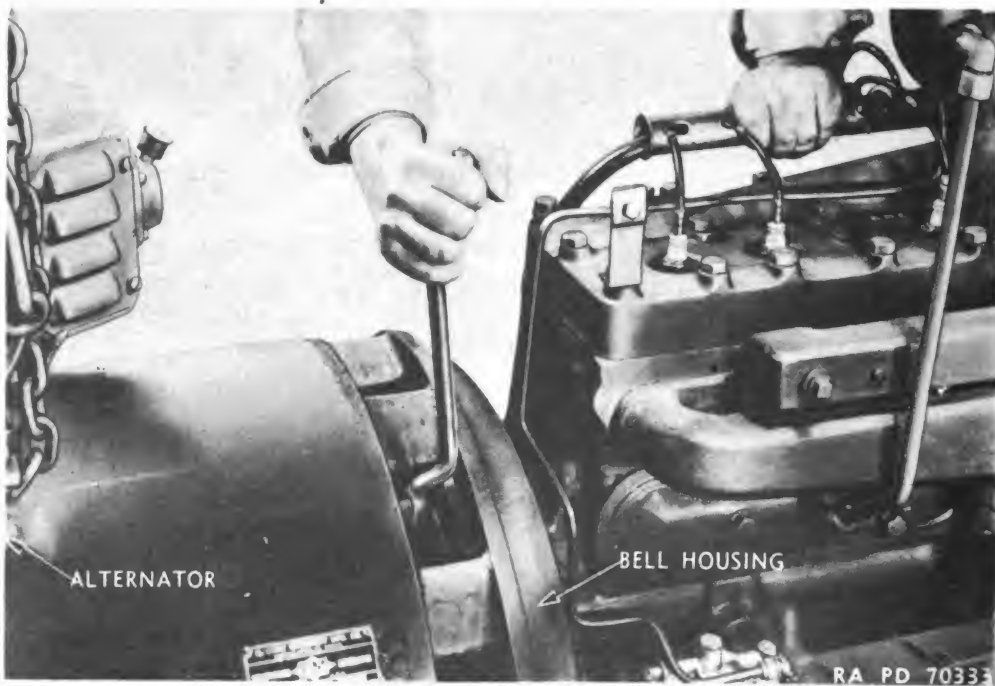

Figure 19 — Removing Alternator — Bell Housing Screws
(10) Take out screws attaching expanded metal guard to bell housing.
(11) Take out the eight cap screws attaching bell housing to alternator housing (fig. 19). Remove wires tying flywheel coupling bolts together. Remove castellated nuts from these bolts.